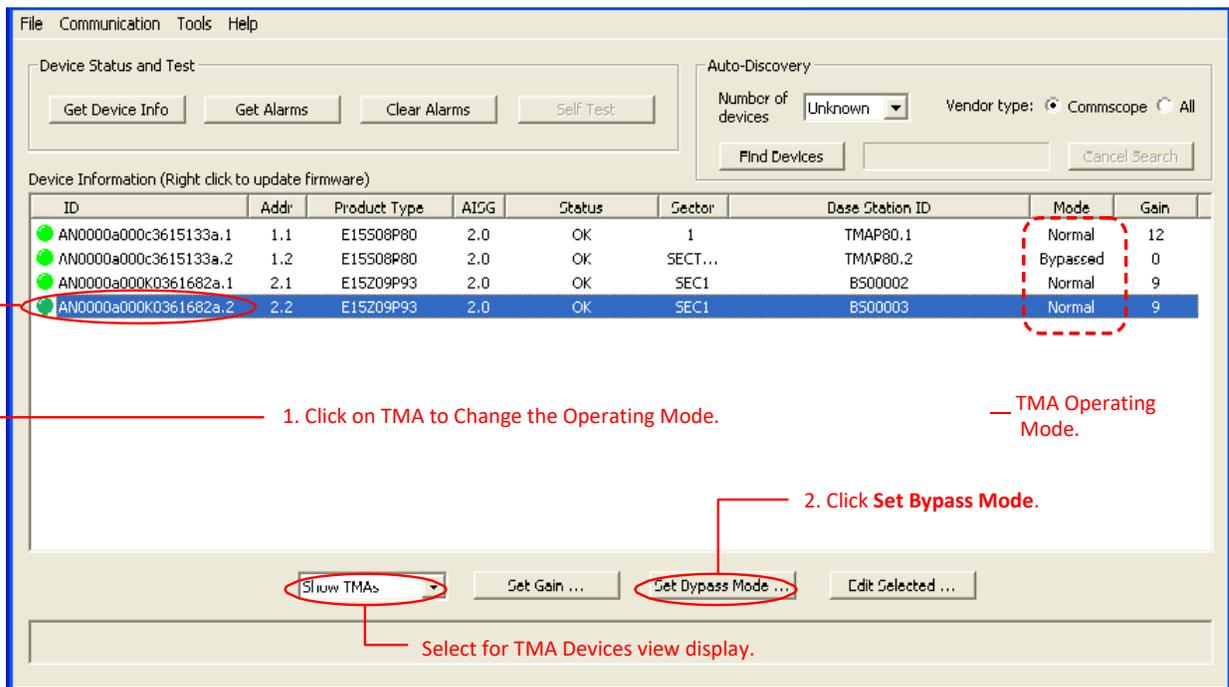

Figure 14-1. Selecting TMA to change Operating Mode
Each TMA device can operate either with its amplifier on or with it bypassed. The ATC-Lite allows changing the TMA operating mode. In the Device Information List, when **Show TMAs** is selected, the current operating mode of each TMA is displayed in the Mode column. 'Normal' indicates that the TMA is operating with its amplifier on, while 'Bypassed' indicates that the TMA amplifier is bypassed. (Figure 14-1).
2. From the **Device Information** list, click on the TMA to change the operating mode (Figure 14-1).
3. Click **Set Bypass Mode** at the bottom of the screen (Figure 14-1).